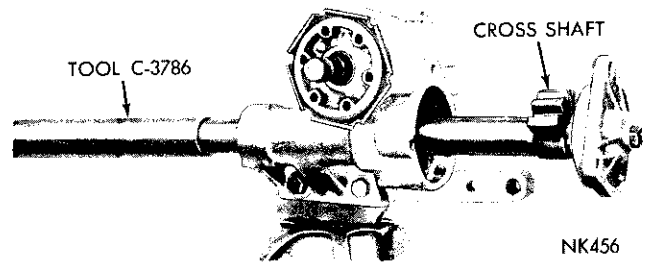
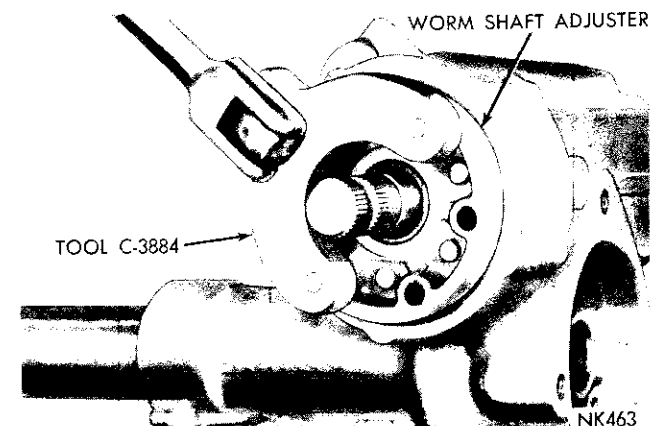

Fig. 4—Removing Cross Shaft
Fig. 5—Removing Worm Shaft Adjuster
(3) Position the steering wormshaft in the straight-ahead position.
(4) Remove the bolts from the cross shaft cover, then slowly remove the cross shaft while sliding the arbor Tool C-3786 into the housing (Fig. 4).
(5) Remove the lock nut from the cross shaft adjusting screw and remove the screw from the cover by turning the screw clockwise.
(6) Slide the adjustment screw and shim out of the slot in the end of the cross shaft.
(7) Loosen the wormshaft bearing adjuster lock nut with a soft drift and remove the lock nut. Hold the wormshaft from turning while unscrewing the adjuster, using wrench from Tool Set C-3884. (Fig. 5).
(8) Slide the worm shaft adjuster off the shaft.